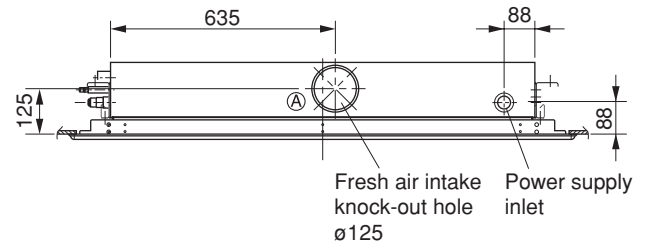

Fig. 3-6
- (5) If the system requires fresh air to be drawn into the unit, cut and remove the insulation (both externally and internally) at the location shown as (A) in Fig. 3-6.